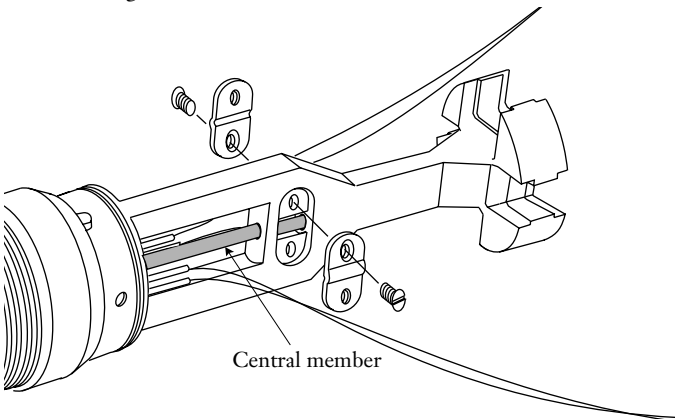

Figure 12
- Make sure that the central member is seated inside the hole inside the body (see Figure 12)
5.3 If you are installing a 14-24 fiber Fan-Out body, secure the central member by placing the two clamp plates in their recesses on opposite sides of the body. Secure the plates with screws as shown in Figure 12.